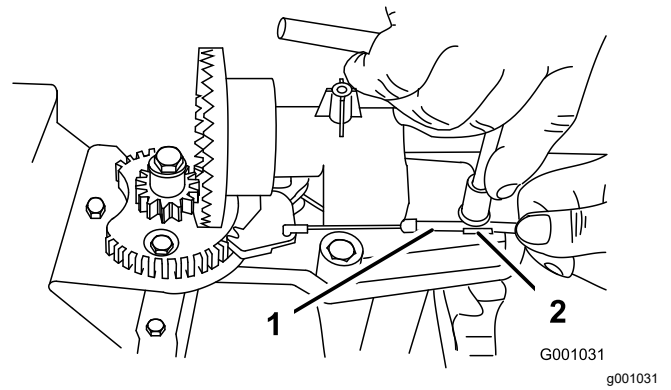
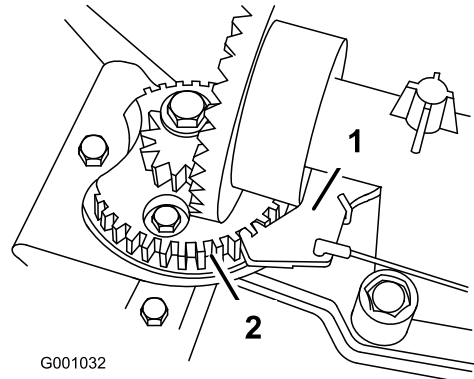

Figure 42
Figure 43
- Loosen the bolt on the cable clamp (Figure 42).
- Grasp the cable conduit and move it toward the front of the machine until the discharge-chute latch fully engages the gear teeth (Figure 42 and Figure 43).
Note: The latch is spring loaded and naturally moves into the teeth of the gear (Figure 43).